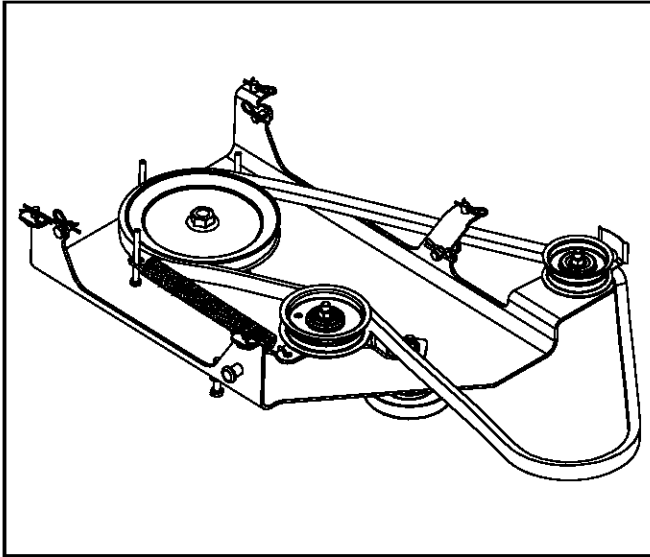

Figure 6
- Position the upper v-belt as illustrated in Figure 6.